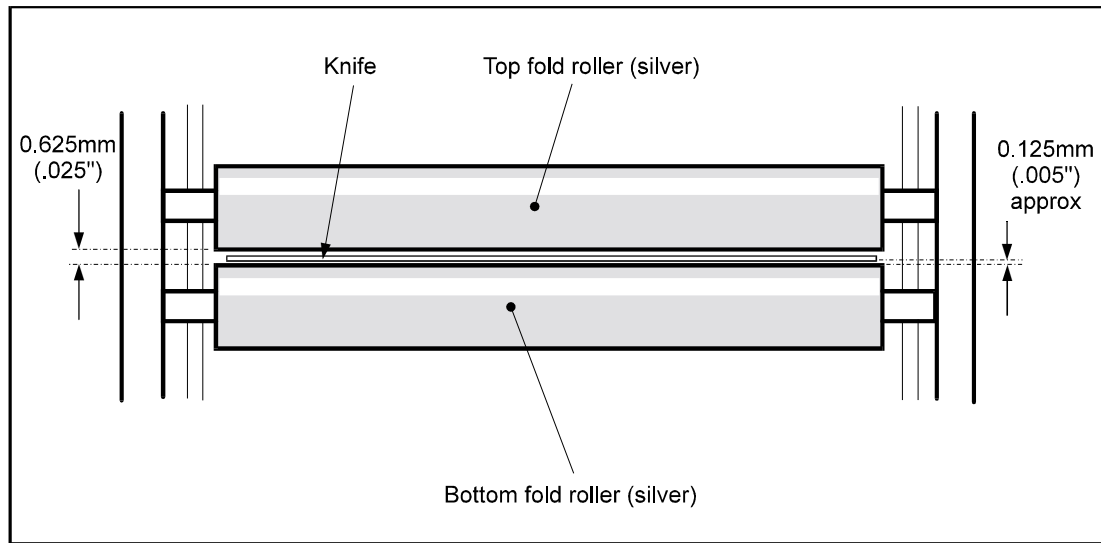

Figure 4.2 - Fold rollers and knife settings.
7. Measure the gap between the two fold rollers, this should be 0.625 mm (0.025"). See figure 4.2.